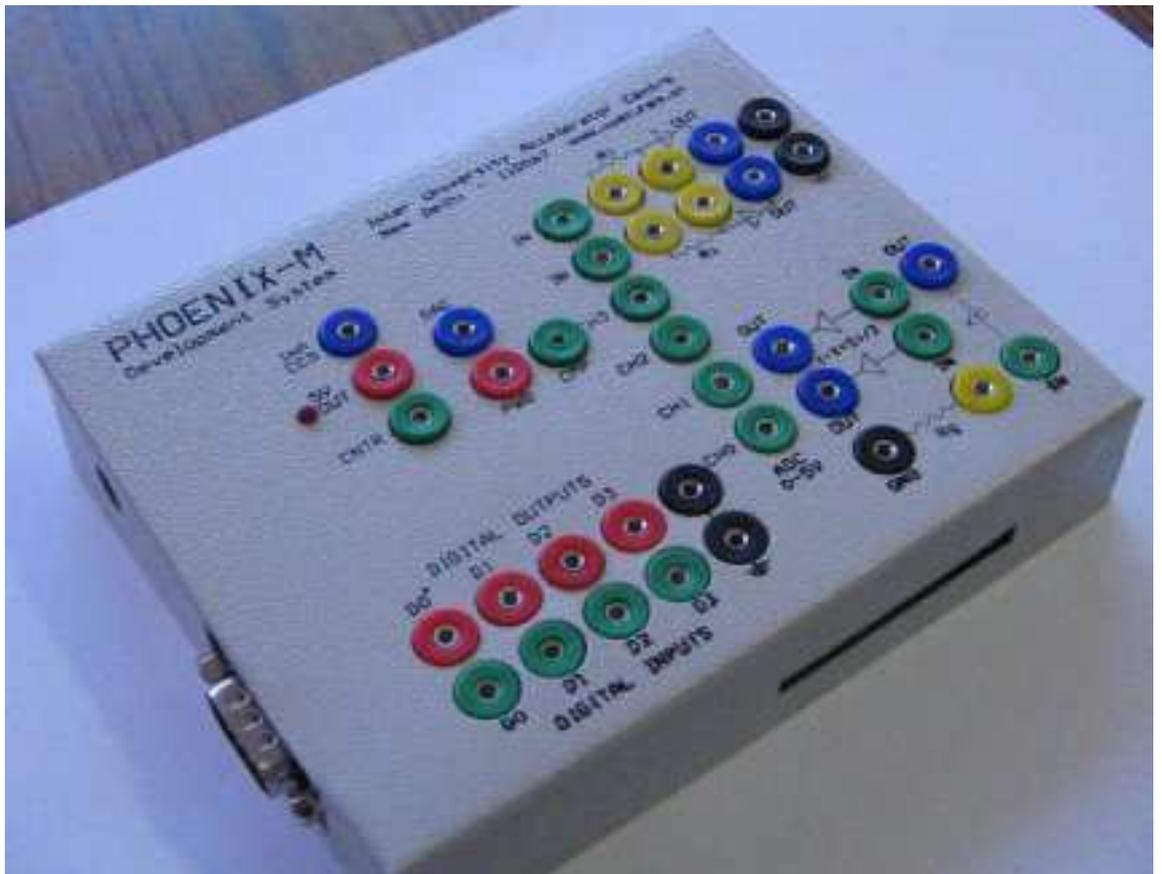

Figure 2.1: The Phoenix-M box
1. The Phoenix box (Figure 2.1)